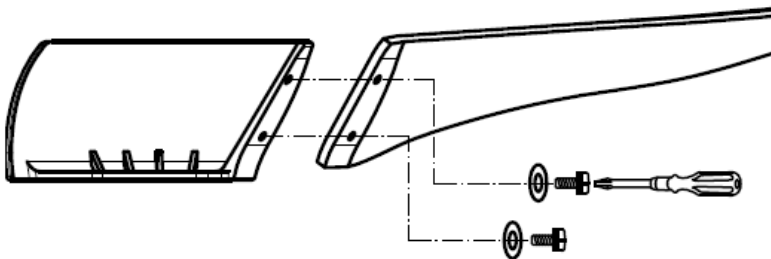

Fig. 10
BLADE INSTALLATION (Fig.10)
2. Secure the blade to the blade holder by tightening the 2 blade screws with washers provided. **Fig.10**